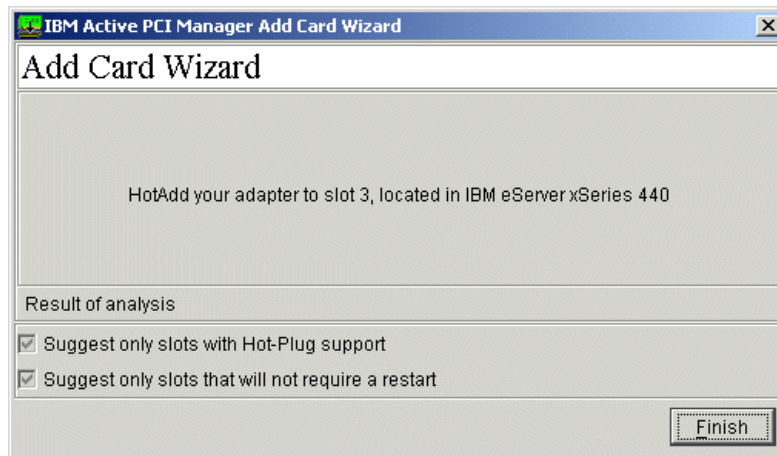

Figure 5-9 Hot Add adapter to slot 3
4. Upon completion of the analysis, Active PCI Manager recommends the best slot to insert the adapter (if one is available with the right criteria), as shown in Figure 5-9 on page 139. In our case it was slot 3 in the x440.